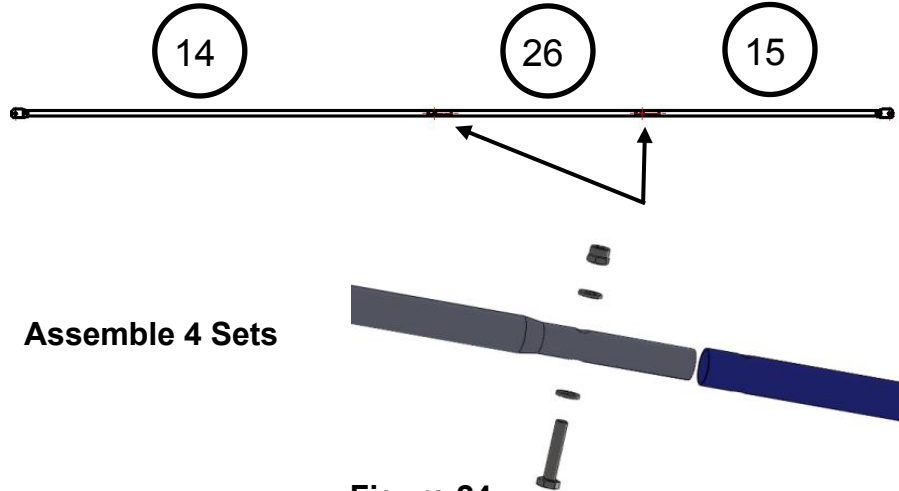

Figure 24
Locate four Male Cross Braces (#14), four #2 Connection Bars (#26) and four Female Cross Braces (#15). Bolt a single Male Section (#14) to a single #2 Connection Bar (#26) to a single Female Section (#15) using two (2) M6x30 Bolts, four (4) Steel Washers and two (2) Locknuts as shown in Figure 24. Repeat for four sets.